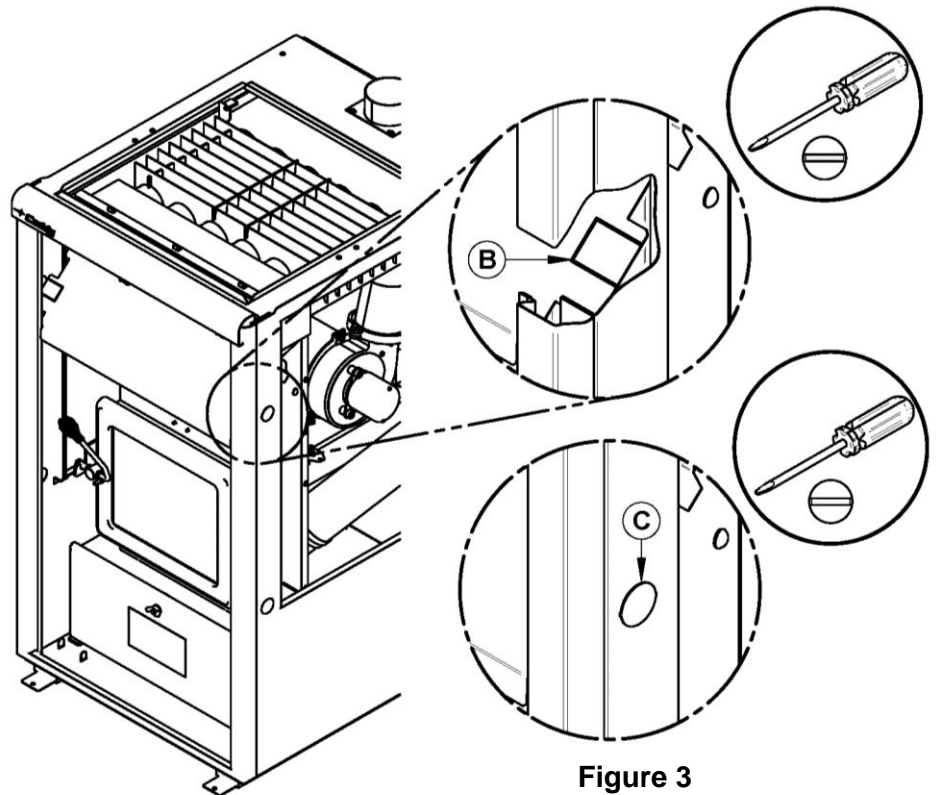

Figure 3
Step 3: If you are installing this option on the right side of your furnace, remove the detachable knock-outs **(B)** and **(C)** with the help of a screwdriver as shown on **Figure 3**. Install the grommets* where the knock-outs were.